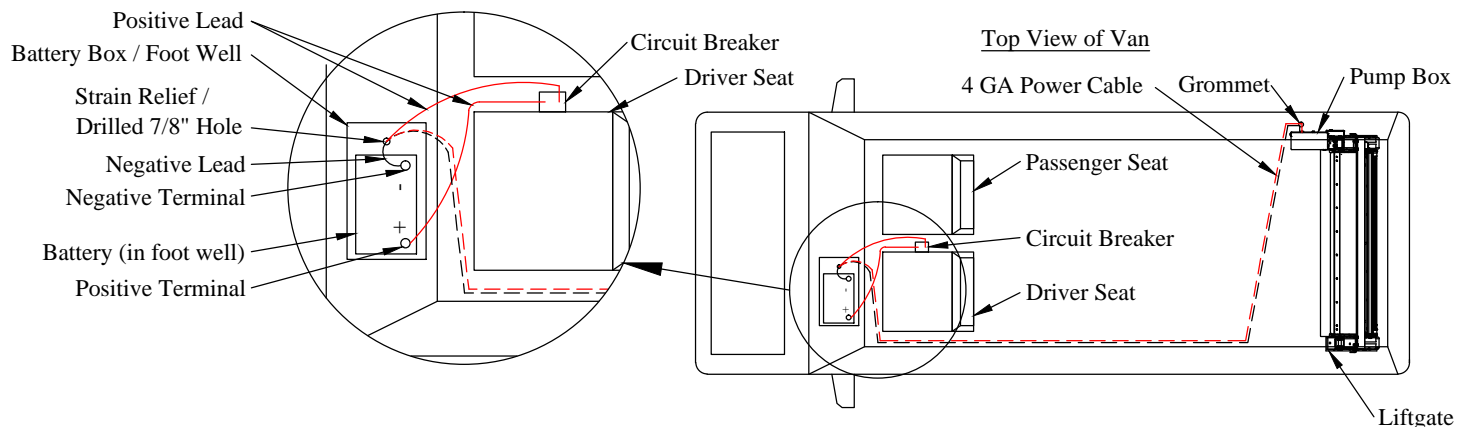

Figure 18: Electrical routing.
1. **Install** the circuit breaker on the side of the driver seat pedestal, near the battery, leaving enough room for the power cables to be installed and so that the circuit breaker can easily be reset (Figure 18).
5. **Route** the power cables under the vehicle from the liftgate, along the frame, to a location under the foot well (Figure 18).